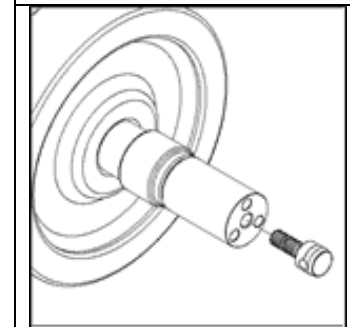

Figure 17 – Installing Adaptor
- 5.3.2 Thread the Installing Adaptor into the Guide Tube (Figure 17).